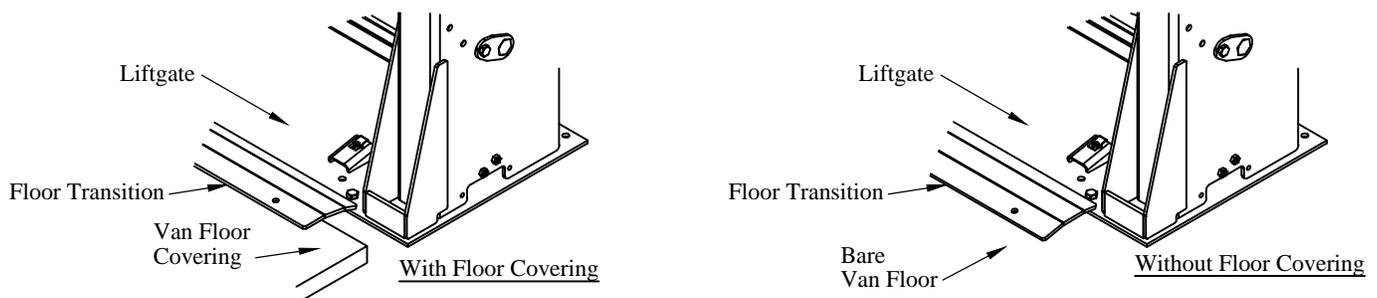

Figure 15: Floor transition.
1. **Position** the floor transition with one side on the liftgate and the other side on the van floor (Figure 15).